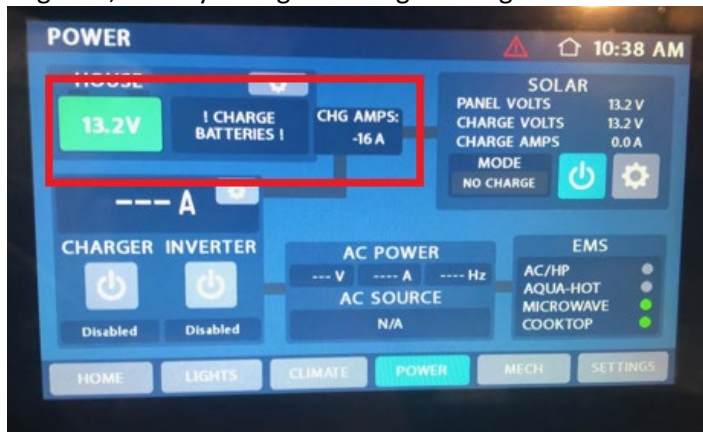

Figure 15
19. To ensure the secondary alternator is functioning as intended, start the engine. At idol, CHG AMPS will be negative, battery voltage will be green. Figure 15